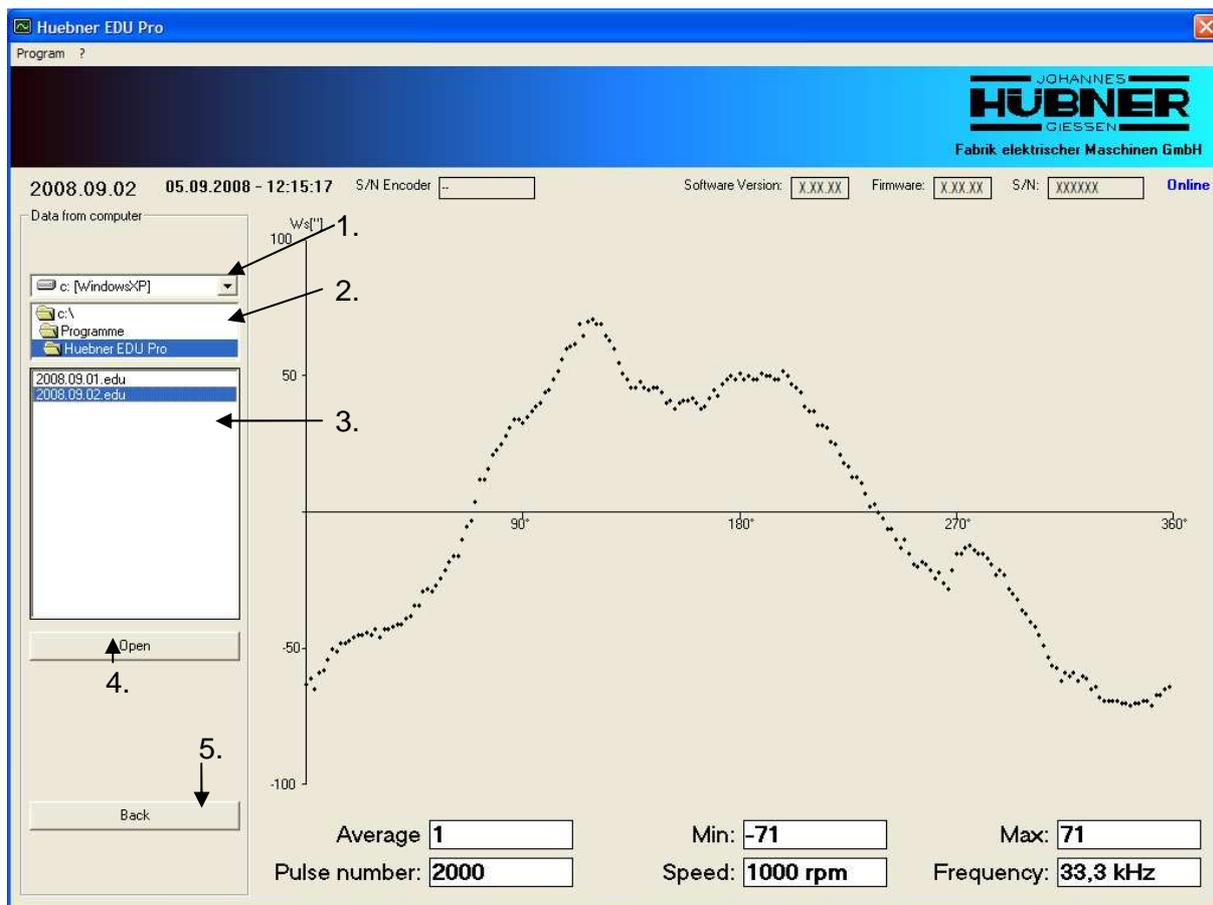

Fig. 18: Data from computer
6. – Button “Data from computer”. Continue Fig. 18.